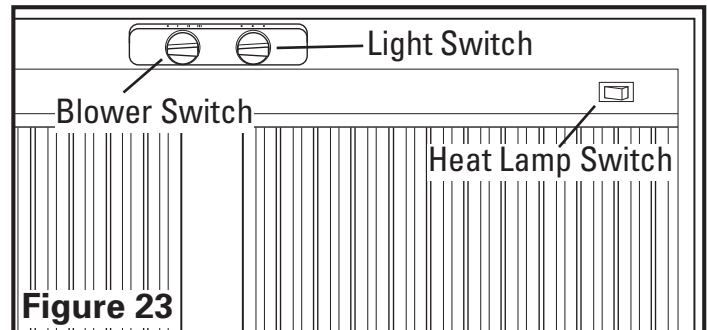

Figure 23
Your Range Hood is equipped with two rotary switches with one controlling the lighting and the other controlling the exhaust fan blower. The light switch has three positions, HIGH (*), LOW (*), and OFF (•). The fan switch has four positions, OFF (•), HIGH (III), MEDIUM (II), and LOW (I) (**Figure 23**).
Heat Lamp Controls: For models equipped with heat lamps, two On/Off rocker switch are located on the front underside of the hood for independent control of the heat lamps (**Figure 23**).